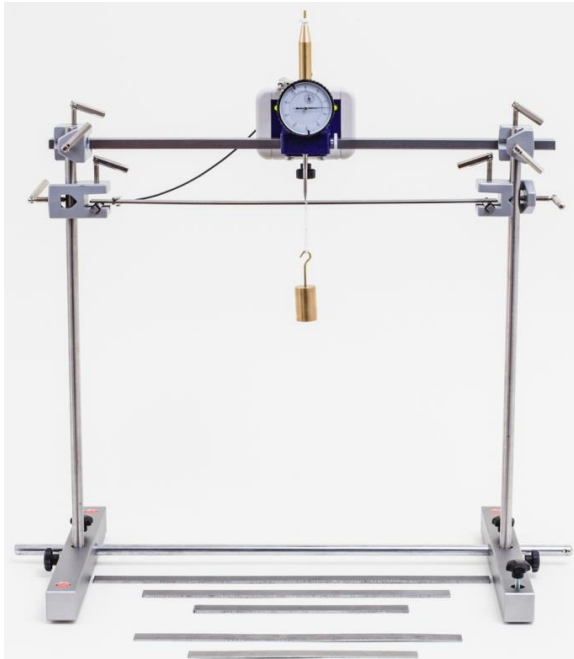

Fig. 1: Experiment set-up for material samples supported on both sides
- First assemble the stand with the two rectangular base pieces, the base strut, the two vertical rods and four universal clamps as shown in Fig. 1. Secure the two universal clamps holding the horizontal bar with the bending gauge unit attached at the same height on the respective vertical rod. The two universal clamps to hold the material sample should be about 15 mm below them. Take note of the alignment of the universal clamps in Fig. 1.
- Plug the 3.5-mm jack plug on the connecting lead for the bending gauge contact into the 3.5-mm socket on the rear of the bending gauge unit. Fix one of the contacts for the lead firmly into place in the terminal provided for the purpose on the gauge and connect the other to the material sample as shown in Fig. 1.